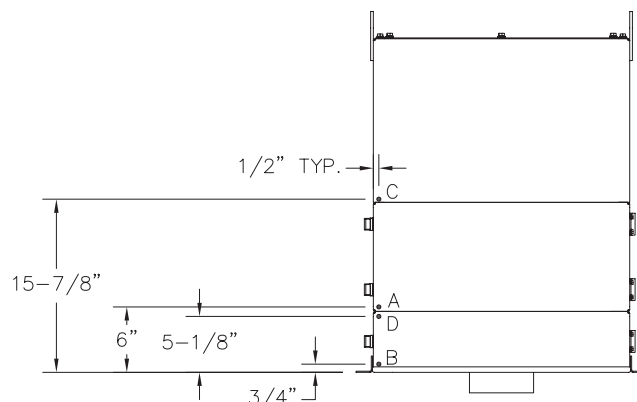

Figure 4
2. Drill 3/8" dia. holes in the cabinet (Fig. 4) and insert P1050 gromet.
3. Connect P2806 tubing from the hole labeled "A" (Fig 4) to the port labeled "LOW" on the 0-5" minihelic.
4. Connect P2806 tubing from the hole labeled "B" (Fig 4) to the port labeled "HI" on the 0-5" minihelic.
5. Connect P2806 tubing from the hole labeled "C" (Fig 4) to the port labeled "LOW" on the 0-10" minihelic.
6. Connect P2806 tubing from the hole labeled "D" (Fig 4) to the port labeled "HI" on the 0-10" minihelic.